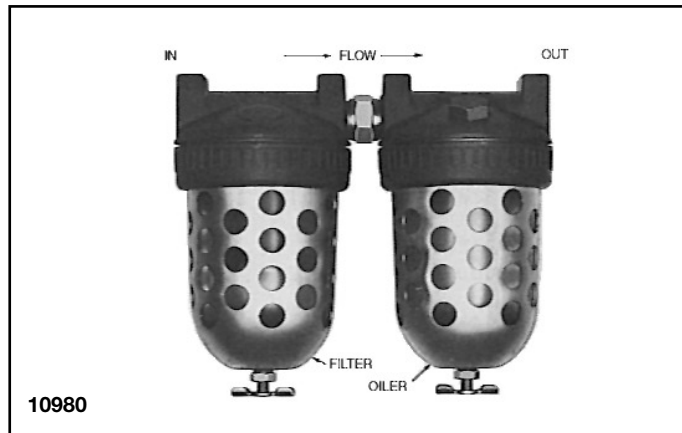

Figure 3. Air Filter and Lubricator Unit
2. A filter lubricator unit (Figure 3) **must** be installed between the air source and the air hose leading to the bridge. These keep air flowing to the motor free of dirt and add lubricant to the air so internal parts of the motor are constantly lubricated. Use a good grade of spindle oil, approximate viscosity 180 ssu at 100° F, air powered tool oil, or S.A.E. 10W machine oil. BUDGIT distributors can provide filter-lubricator units.